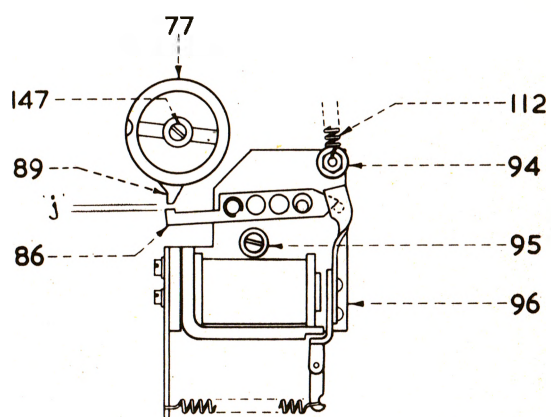

FIG. 7
- 25.4 Re-tighten screws (92) and withdraw the gauge. Re-check the adjustment and refine if necessary.
26. Electromagnet-mounting bracket, Fig. 7